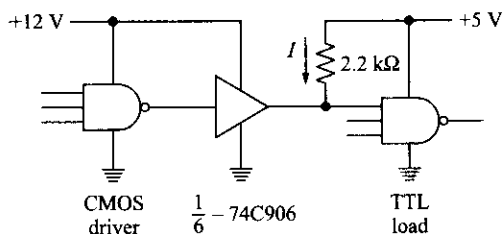

Fig. 14.59
- 14.46 Ideally, what is the sink current I in Fig. 14.59? If the TTL load has a high-state input current of $40\ \mu\text{A}$, what is the voltage drop across the $2.2\ \text{k}\Omega$?
- 14.47 If the input capacitance of the TTL load is $10\ \text{pF}$, what does the pull-up time constant equal in Fig. 14.59?
- 14.48 What is the maximum sink current for the 74C906 in Fig. 14.59?